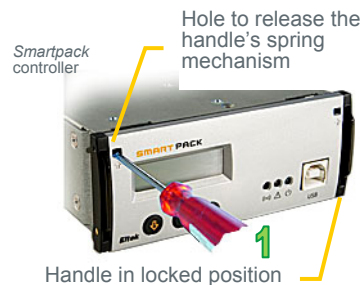

Figure 5 Removing the *Smartpack* controller
To access the CAN bus termination plug from the *Smartpack* controller’s rear CAN port, release (1) both handle springs — see Figure 5, page 9 — and use both handles to cautiously pull out the module. Be careful, as cables are connected to its rear.